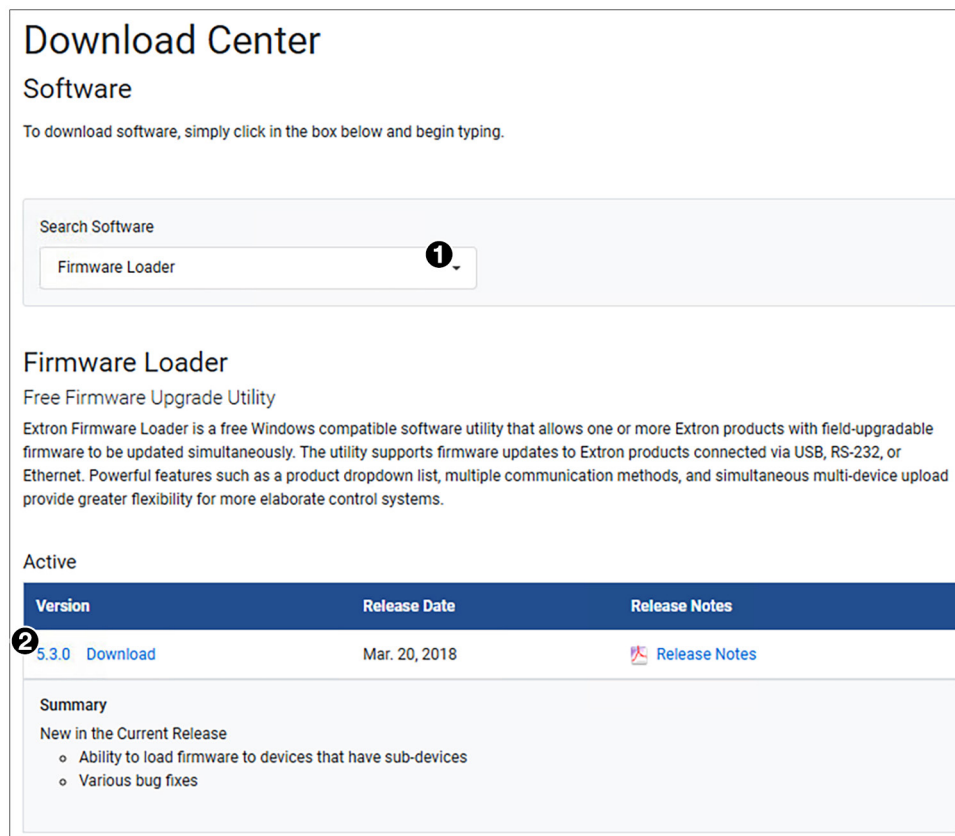

Figure 16. Firmware Loader Download Center Page
2. Click the **Software** link (②) in the Downloads column.
3. On the Software Download Center screen, click on the down arrow (see figure 16, ①) in the **Search Software** box and select **Firmware** Loader from the drop-down list. If you need an Extron Insider ID number to access this box, see your Extron representative.
- Click the link to the active Firmware Loader version (see figure 16, ②). After a few seconds, a link to the firmware installer file in your Downloads folder appears.